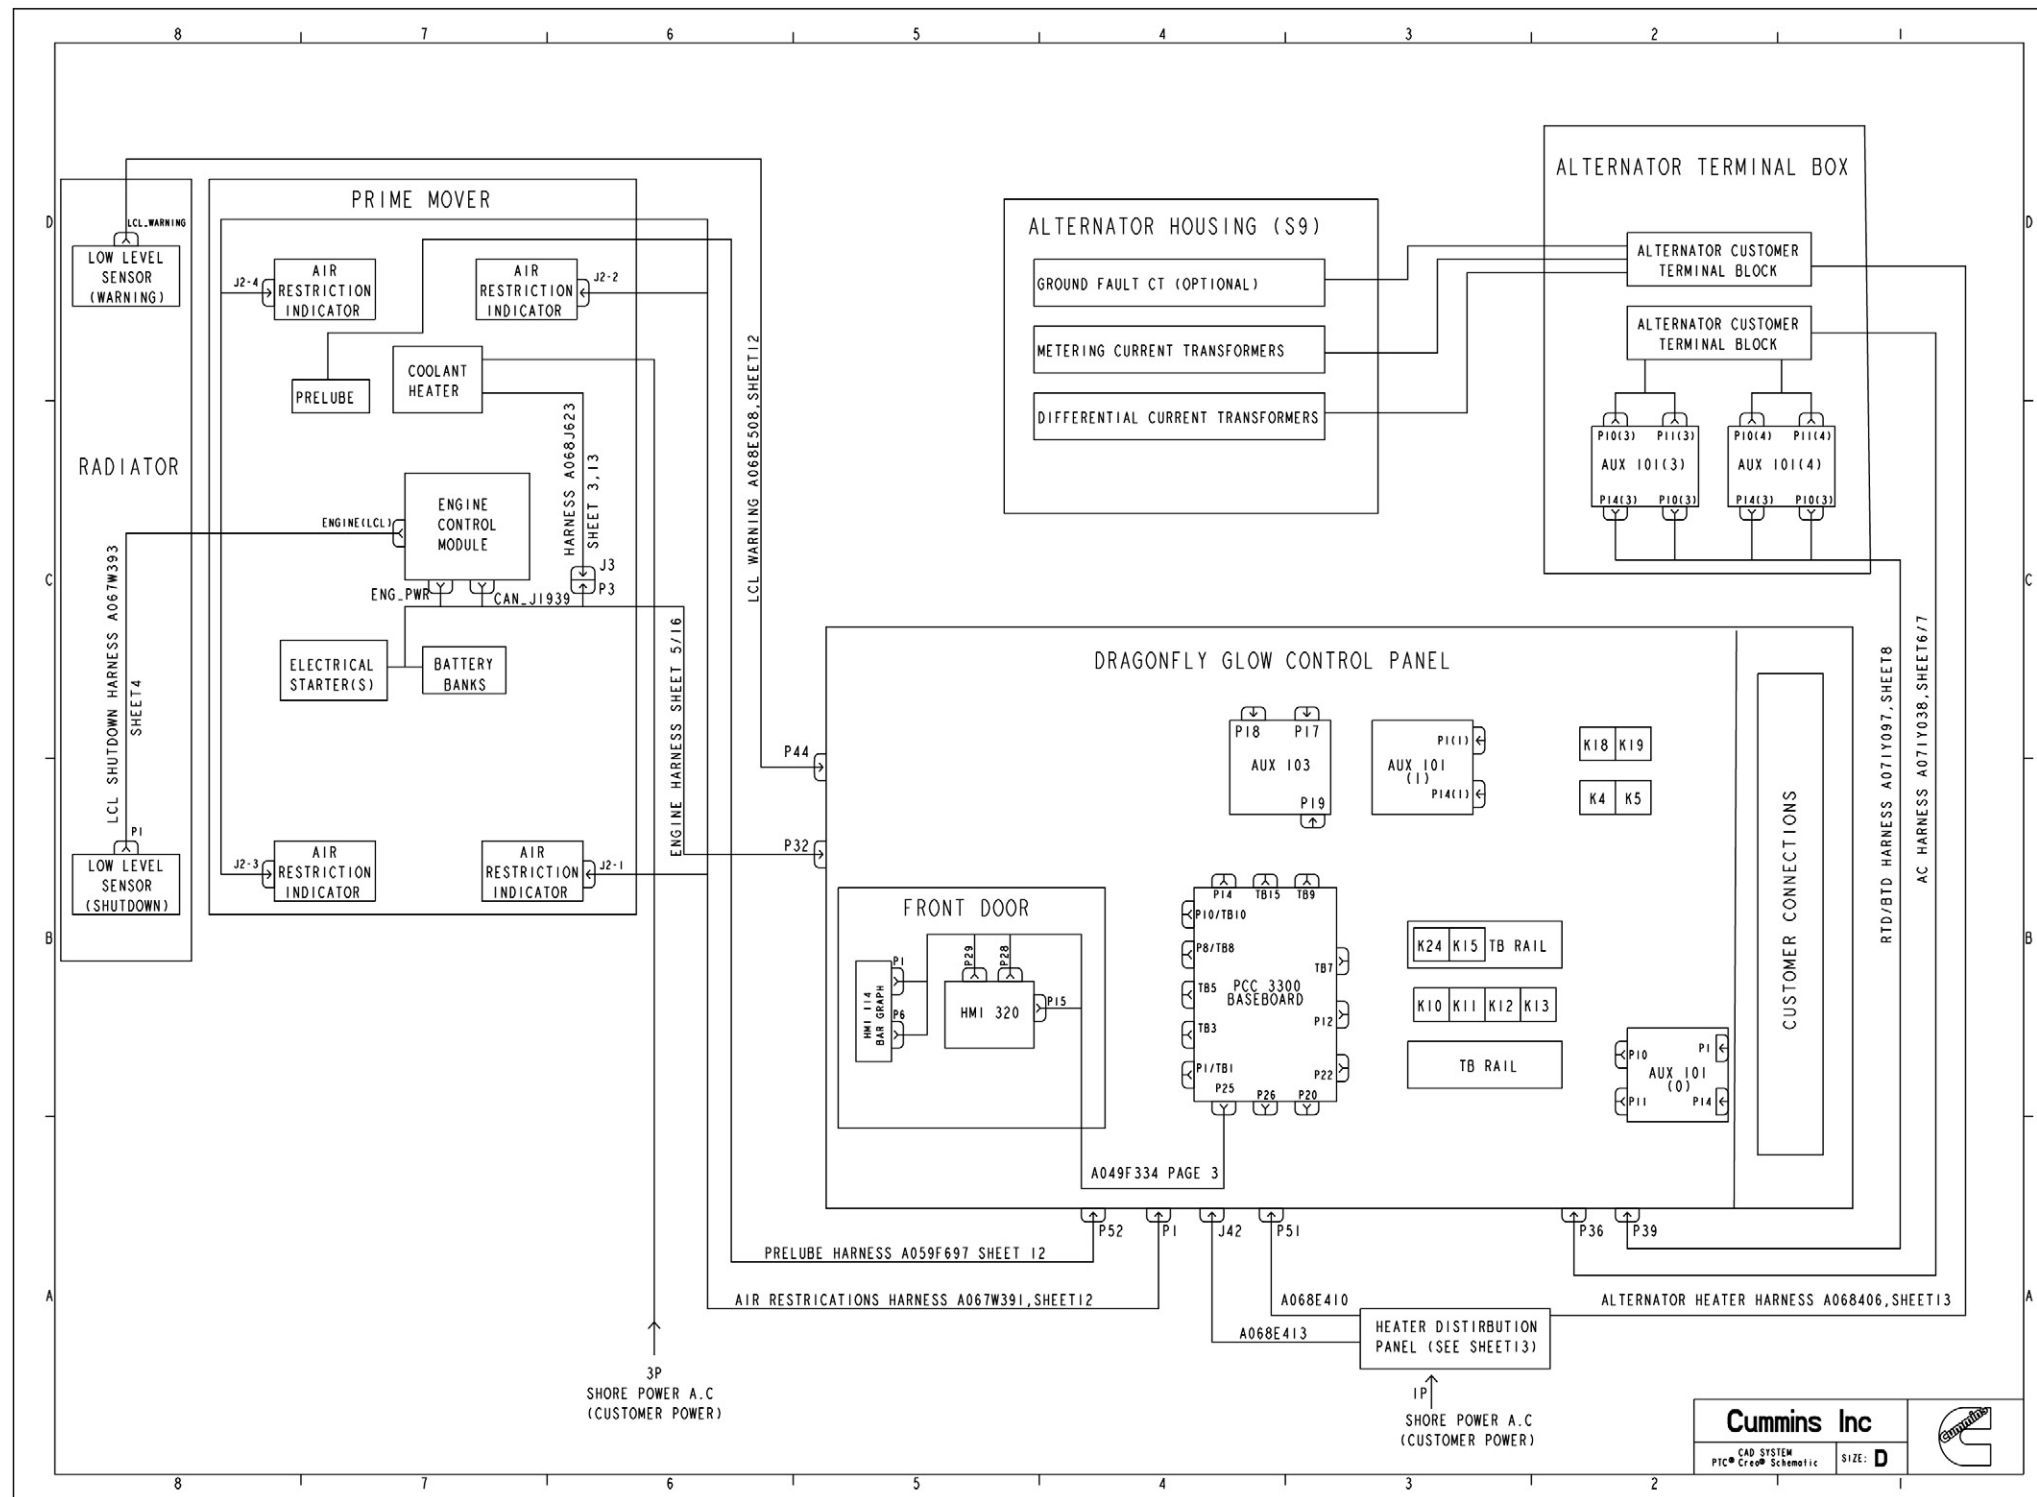

FIGURE 57. WIRING SCHEMATIC (SHEET 2)
- Figure 57. Wiring Schematic (Sheet 2) 112